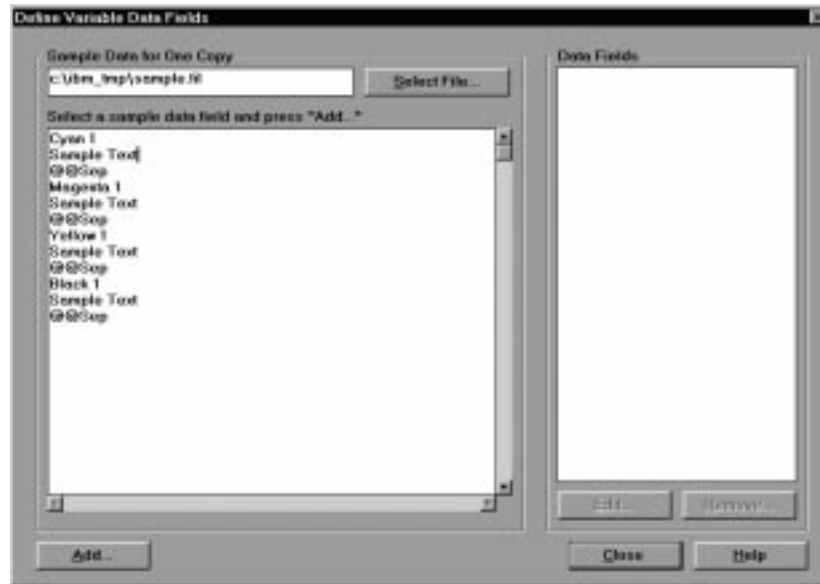

Figure 19. Define Variable Data Fields Dialog
5. In the Define Variable Data Fields window, select the entire first field, up to but not including the separator field as shown in Figure 19 on page 30.